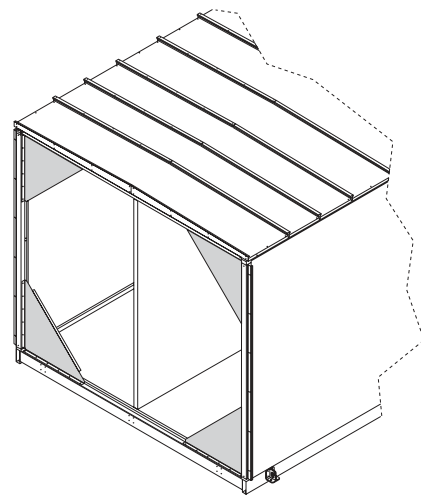

Figure 3: Corner reinforcement brackets or angle bars to be removed from the split section. Reset the screws with rubber washer in place for water-tightness.
3. Corner reinforcement brackets or angle bars may have been used to support multi-section (modular) unit walls during transportation, rigging and lifting at the split. The brackets shown in Figure 3 are for larger units. Simple angle bars are used for smaller units (not shown). The corner reinforcement brackets or angle bars are no longer required after rigging and lifting and must be removed.